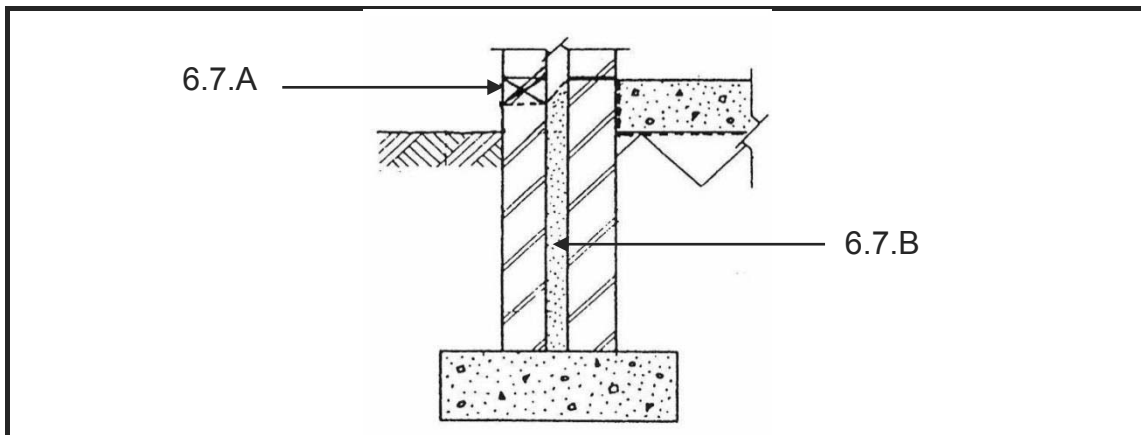

FIGURE 6.7
6.7 Answer the following questions on the wall construction in FIGURE 6.7.